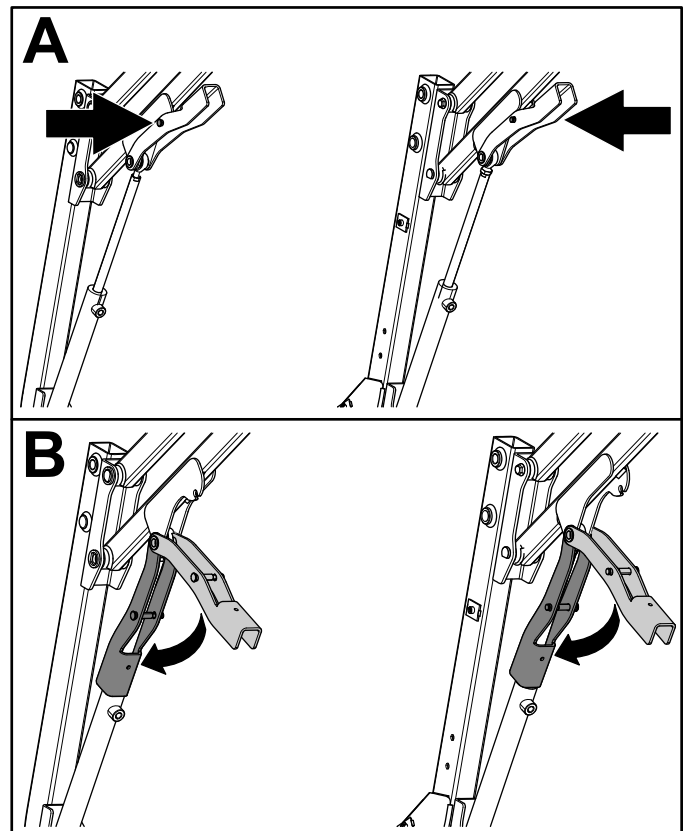

Figure 41
- A. Push the pin on magnetic safety lock inward (Figure 41).
- B. While still holding the pin in, lower magnetic safety lock onto the hydraulic cylinder (Figure 41).